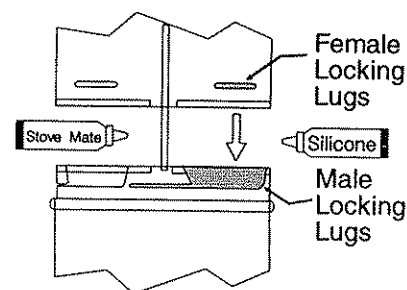

Fig. 1
- a) Twist-lock procedure: Four indentations, located on the female ends of pipes and fittings, are designed to slide straight onto the male ends of adjacent pipes and fittings, by orienting the four pipe indentations so they match and slide in to the four entry slots on the male ends. (Fig. 1) Push the pipe sections completely together, then twist-lock one section clockwise approximately one-quarter turn, until the two sections are fully locked. The female locking lugs will not be visible from the outside, on the Black Pipe or fittings. They may be located by examining the inside of the female ends.